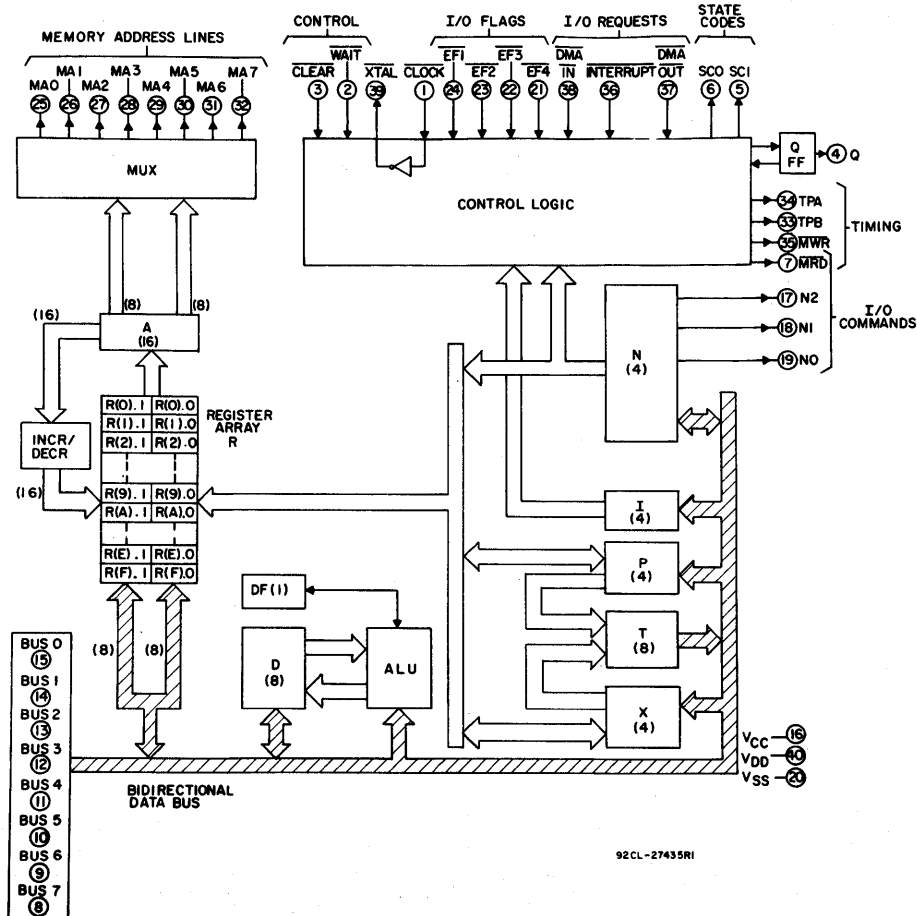

Fig. 14 - CDP1802 block diagram.
The COSMAC block diagram is shown in Fig. 14. The principal feature of this system is a register array (R) consisting of sixteen 16-bit scratchpad registers. Individual registers in the array (R) are designated (selected) by a 4-bit binary code from one of the 4-bit registers labeled N, P, and X. The contents of any register can be directed to any one of the following three paths: